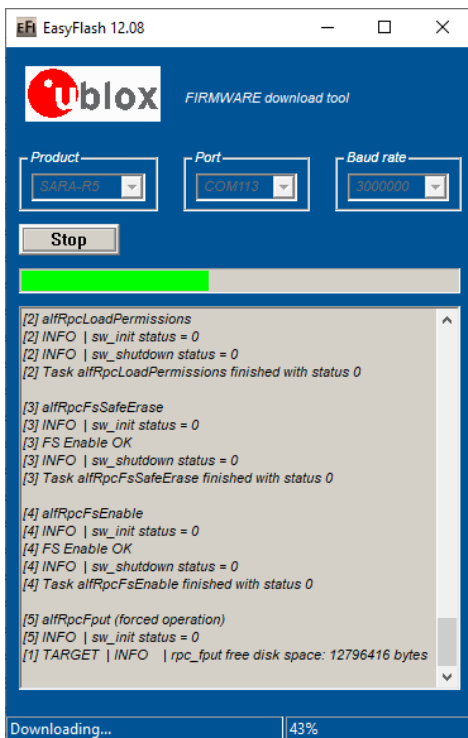
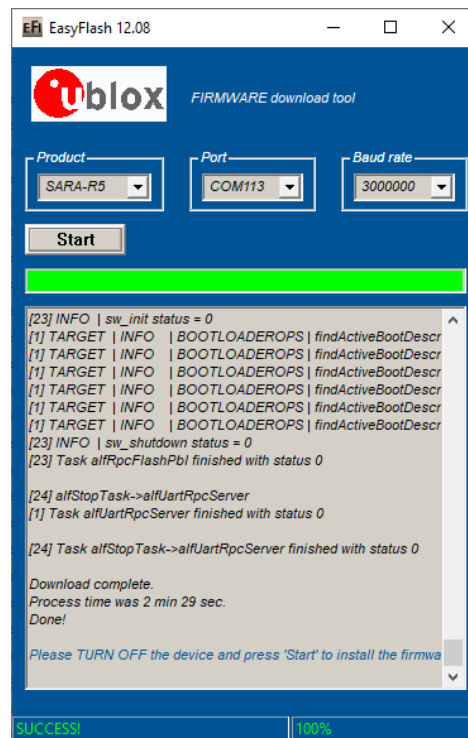

Figure 7: FW update process in progress
Figure 8: FW update process complete and successful
9. Flash will start, wait for flash to complete (Figure 7, Figure 8)